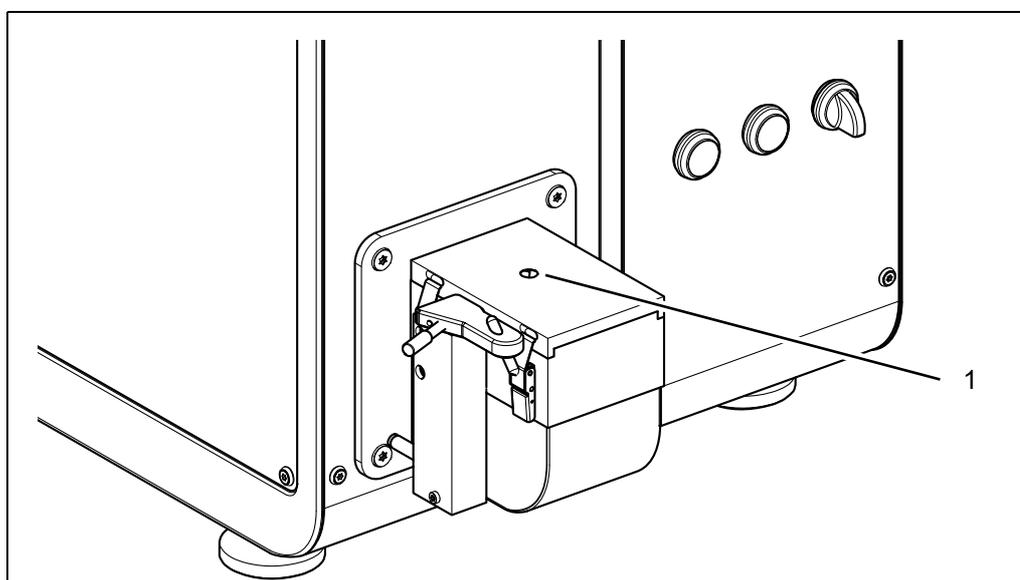

Fig. 9-3 Spark stand
2. Brush the tungsten electrode through the spark stand opening (1, fig. 9-3) using the electrode brush from the accessory case.